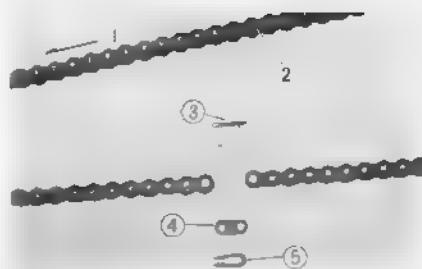

Fig. 3.8 Setting direction of chain clip
9. Loop the drive chain over the drive sprocket and connect the chain. The open end of the chain joint clip must be installed facing in the opposite direction of the chain movement. (Fig. 3.8)